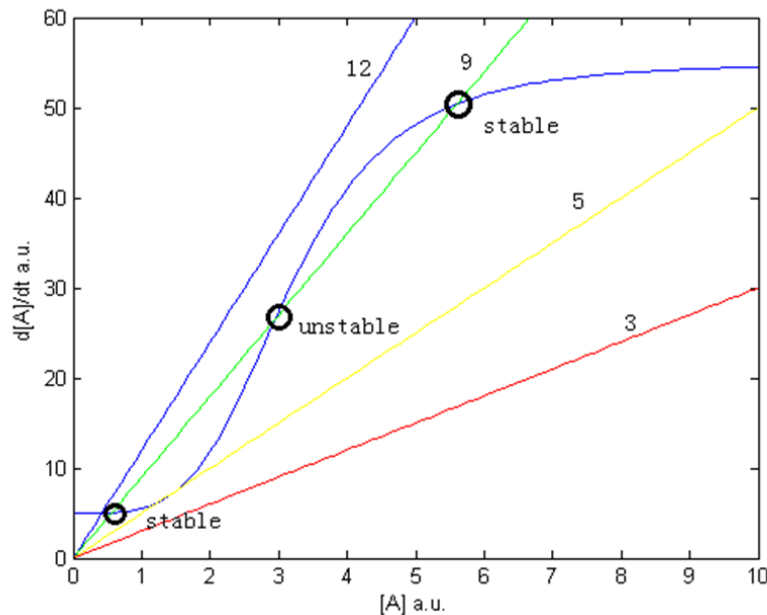

Fig. 4: Production curve of A from P
Galenman is interested in understanding bacterial population dynamics. He proposes to construct a gene circuit that can drive a homogeneous bacterial population into two distinct subpopulations in such a manner that the ratio of the two subpopulations can be controlled by a chemical. To accomplish this feat, he intends to design a noise generator whose noise level can be modulated by an exogenous chemical C , and then connect this noise generator to a bi-stable switch. The population type is determined by whether or not the output of the bi-stable switch, which is based on a positive feedback loop, is high. Galenman finds a tetrameric activator A and promoter P pair. The promoter can be turned off by adding chemical B . He also finds a series of degradation tags that he can use to modulate protein concentration in the cell. The protein production curve from this promoter is shown below (figure 4).
4.1. From the table below, choose a degradation tag that can form a bi-stable switch. On figure 4 itself:
4.1.4. Assuming that the tetramer formation is highly cooperative and fast relative to the transcription and translation of A , estimate the numerical value of the three parameters in the ODE provided below such that the model accurately fits the production curve in figure 4. (**4 Points**)